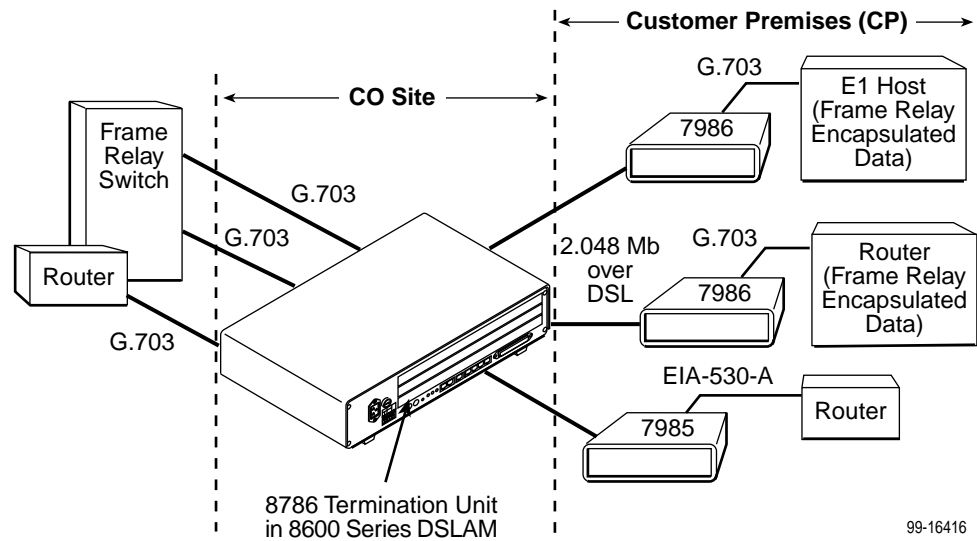

Figure 1-1. Sample CO-to-CP Configuration
Figure 1-1 shows an E1 network application using a Hotwire 8786 M/HDSL Termination Unit for access concentration in a central office (CO). A frame relay switch and a router are connected through the unit to partner units supporting an E1 host or router, and frame relay encapsulated or unframed data.